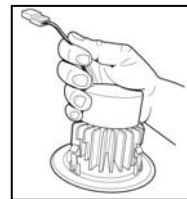

Figure 2
DO NOT LET THE MODULE HANG UNSUPPORTED BY THE ORANGE CONNECTORS. (Figure 2)
- While supporting the LED module, plug connector from the module into the mating connector just installed into the recessed can. Push the wires and mated connectors up into the recessed can. **DO NOT LET THE MODULE HANG UNSUPPORTED BY THE ORANGE CONNECTORS.** (See Figure 2)